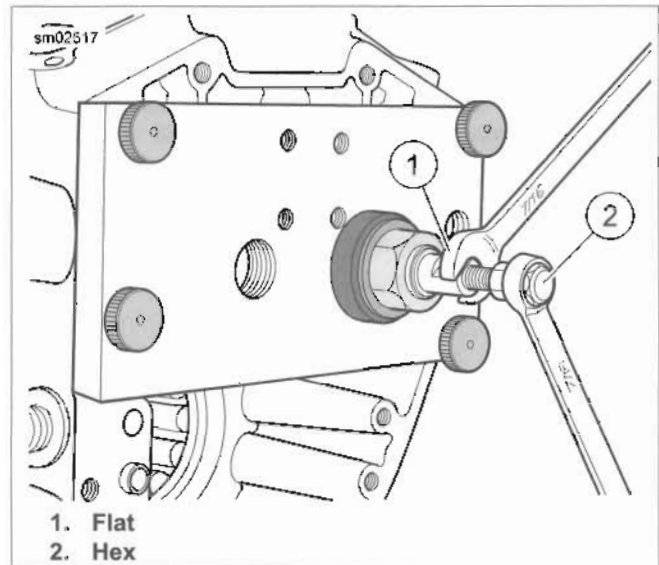

Figure 3-101. Expanding Collet by Turning Hex Clockwise
10. See Figure 3-101. Hold flat on collet to prevent rotation and expand collet by turning hex at end of shaft clockwise. Expandable end of collet makes contact with needle bearing ID.